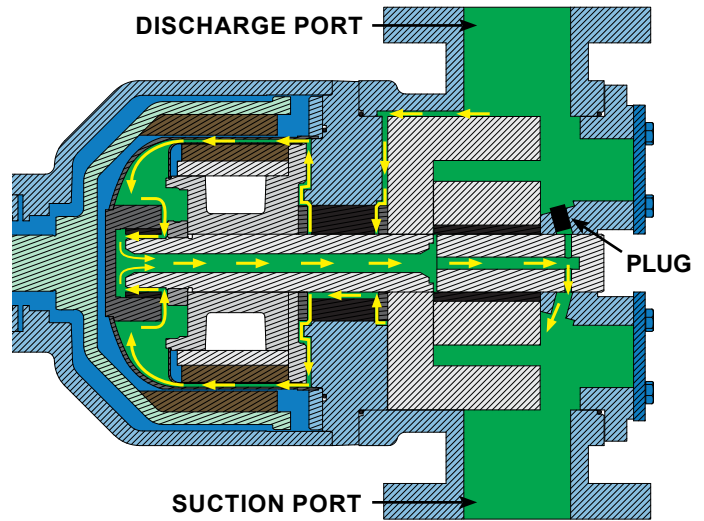

FIGURE 14
11. Insure pipe plug is installed in the hole in the head, at the base of the idler pin, that aligns with the vertical groove in the adaptor plate. Plug will be slightly offset to CW side of groove. Insure the hole in the opposite side is unobstructed. **See Figure 14** on page 9.
bushing and back through the hollow shaft and idler pin to the suction side of the pump. When the pump is operated in the opposite direction, the fluid flow is reversed, see **Figure 14**.